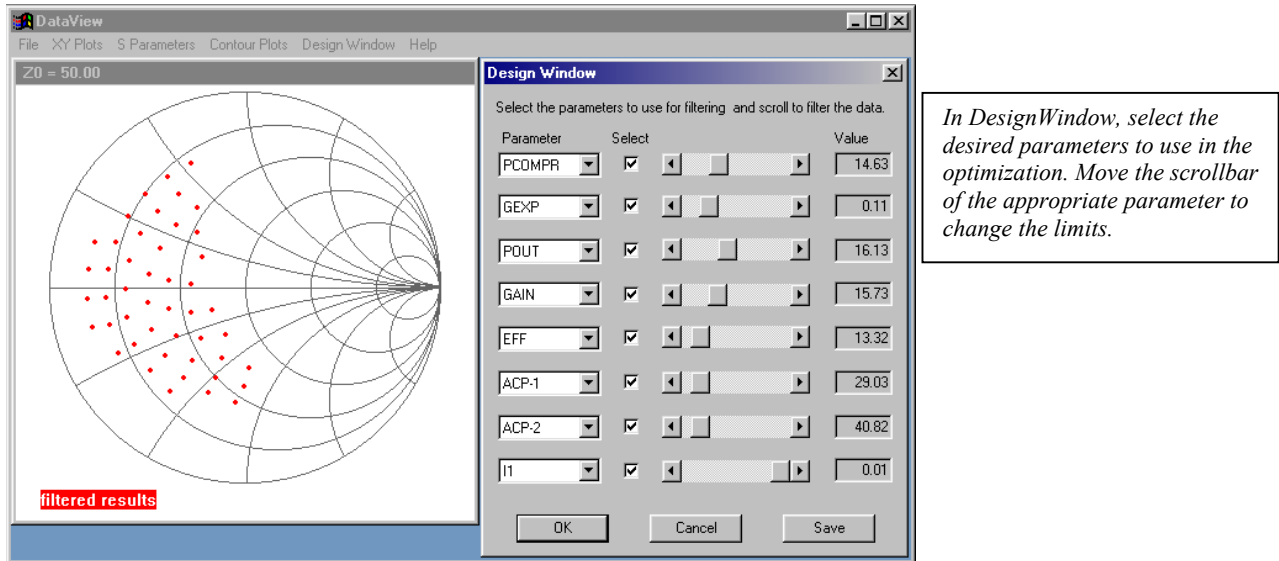
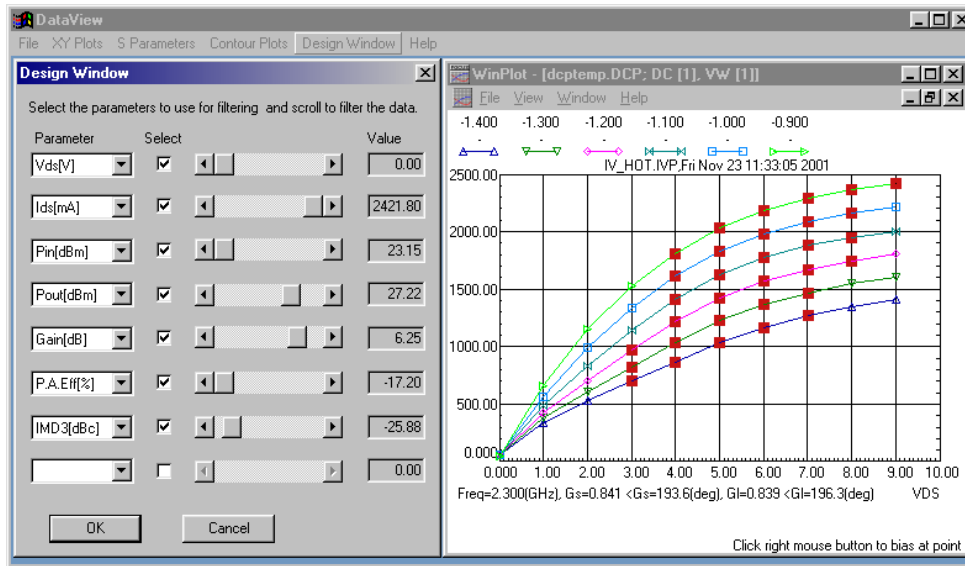

Figure 1: Load Pull *DesignWindow*
Figure 3: IV Curves DesignWindow
- Activates *DesignWindow*: Displays Load Pull (LPD) and IV Curve (IVP) files by filtering specified parameters and re-saves them for later processing in *ContourViewer* or *WinPlot* (Figure 1 & Figure 3).